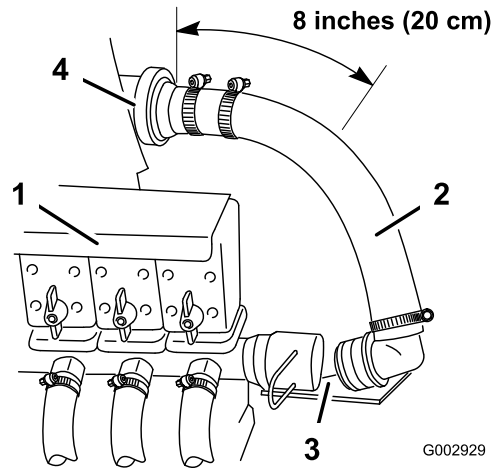

Figure 6
1. Remove the retainer securing the end of the boom supply hose connected to the tee located to the right of the boom supply valves and disconnect it (Figure 6).
2. Cut the boom supply hose 8-3/4 inches (22 cm) to the right of the flow meter (if equipped) or 32 inches (81 cm) from the supply tee (located directly behind the boom valves) using a hacksaw (Figure 6). Remove the hose clamp from the loose end and discard the hose and fitting.